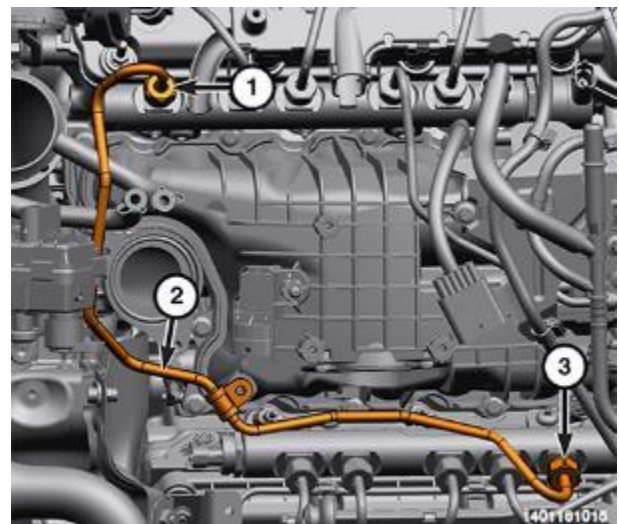

Figure 116 – Crossover Tube Bolt
47. Unscrew the union nuts (1 and 3) and remove the fuel crossover tube (2) and discard (Figure 116).